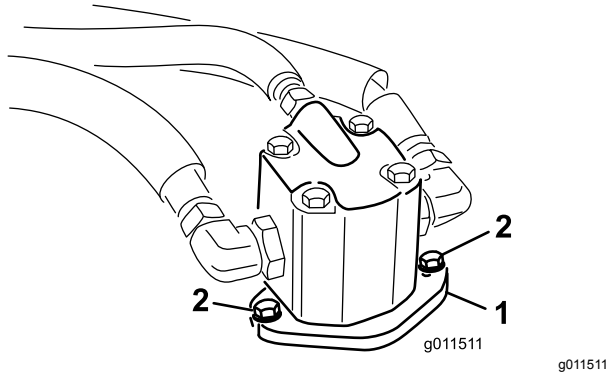

Figure 98
4. Remove the bolts securing the hydraulic motor to the cutting unit (Figure 98). Lift the motor off of the cutting unit and lay it on top of the cutting unit.